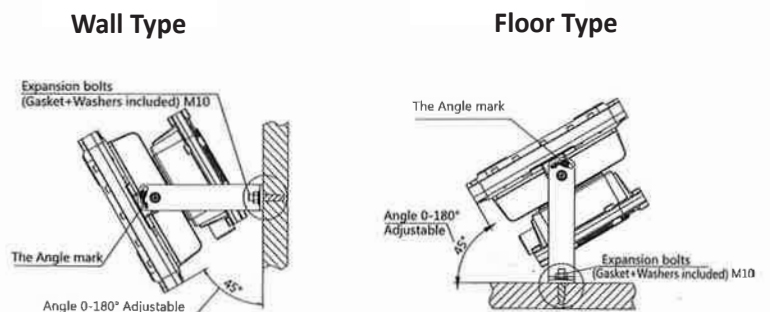

Figure 3
11. The luminaire can be adjusted up and down by 45° on wall/floor position only. **FIGURE 3**